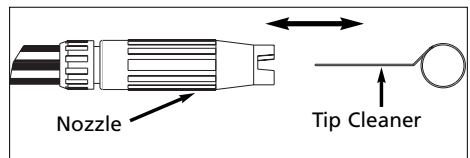

Figure 7 – Insert tip cleaner in nozzle hole and move back and forth until debris is dislodged.
- Using included tip cleaner, or an un-folded paper clip, insert wire into the nozzle hole and move back and forth until debris is dislodged. (See Figure 7.)